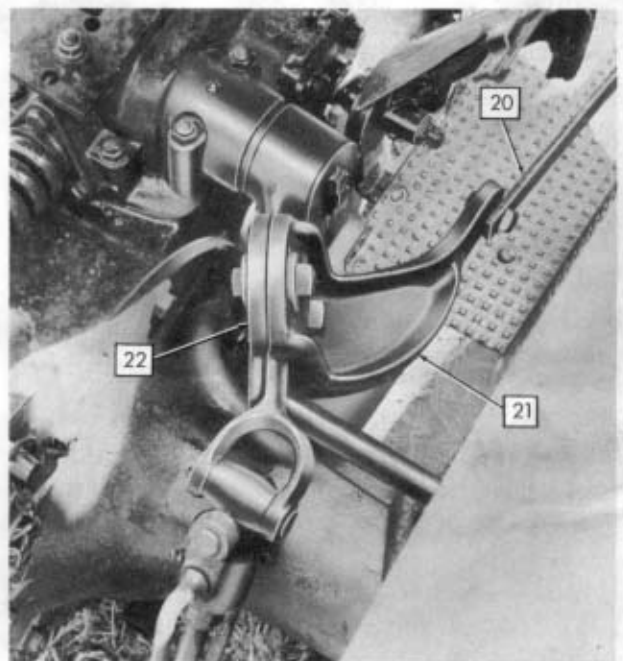

Figure 10
**Step 5:** Attach the two lifting rod clamps (22) and forgings (21) to the right and left hydraulic lifting arms of the tractor as shown in Figure 10.
**Step 6:** Attach the lift rods (20) to the lift forgings (21), using the short pipe bushings found in Bundle 7. Figure 10.